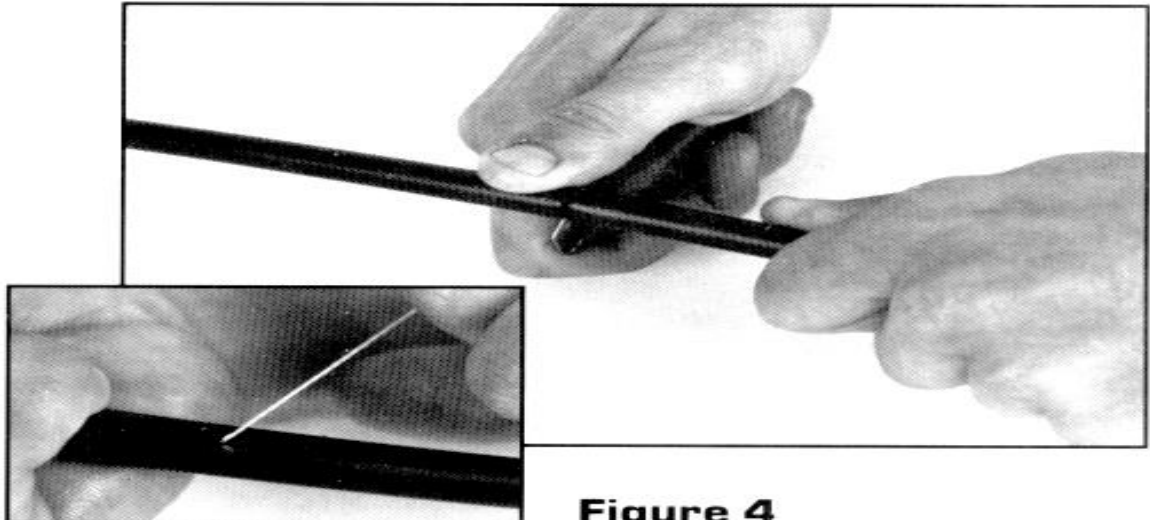

Figure 4
- Slide the grip over the end of the cable core and push the cable out through the tape of the mesh leaving about 12 inches of core exposed. (Figure 4)